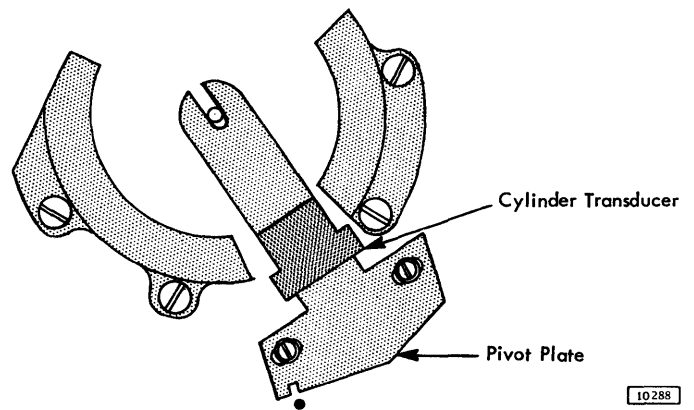

Figure 4-17. Cylinder Transducer
3. Allow the scope trace to free-run. Loosen the left-hand mounting plate screw if it has a flat and lockwasher. Rotate the transducer pivot plate away from the detent transducer as far as possible. (Use a screwdriver to pry between the slot in the pivot plate and the rolled pin in the base plate, shown in Figure 4-17.) Next, rotate the pivot plate toward the detent transducer until the signal drops to a minimum and begins to increase. Continue to rotate until the signal amplitude equals approximately 300 mv peak to peak.